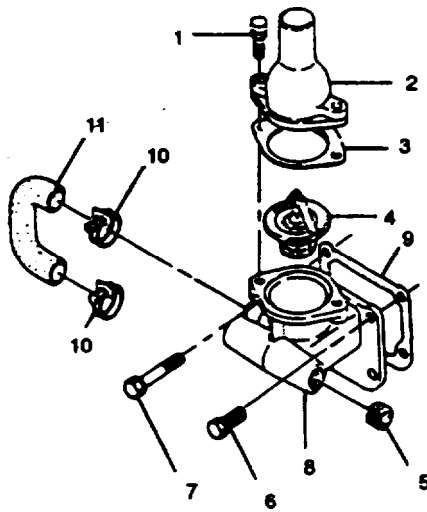

FIGURE 3-1. Thermostat and Housing
- b. If not already done, loosen hose clamp and disconnect outlet hose from outlet pipe (2, FIGURE 3-1).
- a. If removed, install plugs (5, FIGURE 3-1) in housing (8).
- b. Apply sealing compound (FORMAGASKET2) and position housing (8) with new gasket (9) on engine block and secure with four screws (6 and 7). Install two shorter screws (6) in locations noted during removal. Tighten all four screws to 168 in-lbs (19 Nm)
- c. Position thermostat (4) in housing (8).